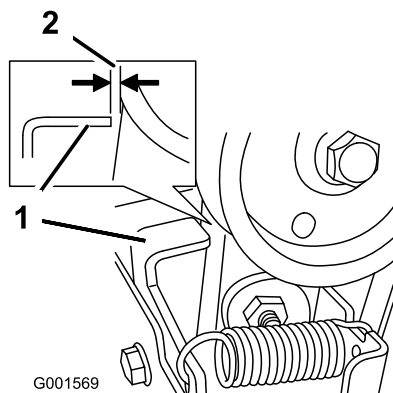

Figure 49
3. With the auger/impeller lever disengaged, ensure that the gap between the auger clutch assembly and the tab is 1.5 mm (1/16 inch) (Figure 49).